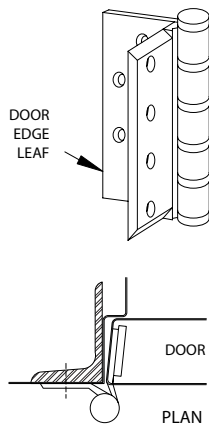

FIGURE 1b
2. The Half Mortise Butt Hinge, Figure 1b, has one leaf mortised into the door edge and one leaf surface mounted on the face of the frame.